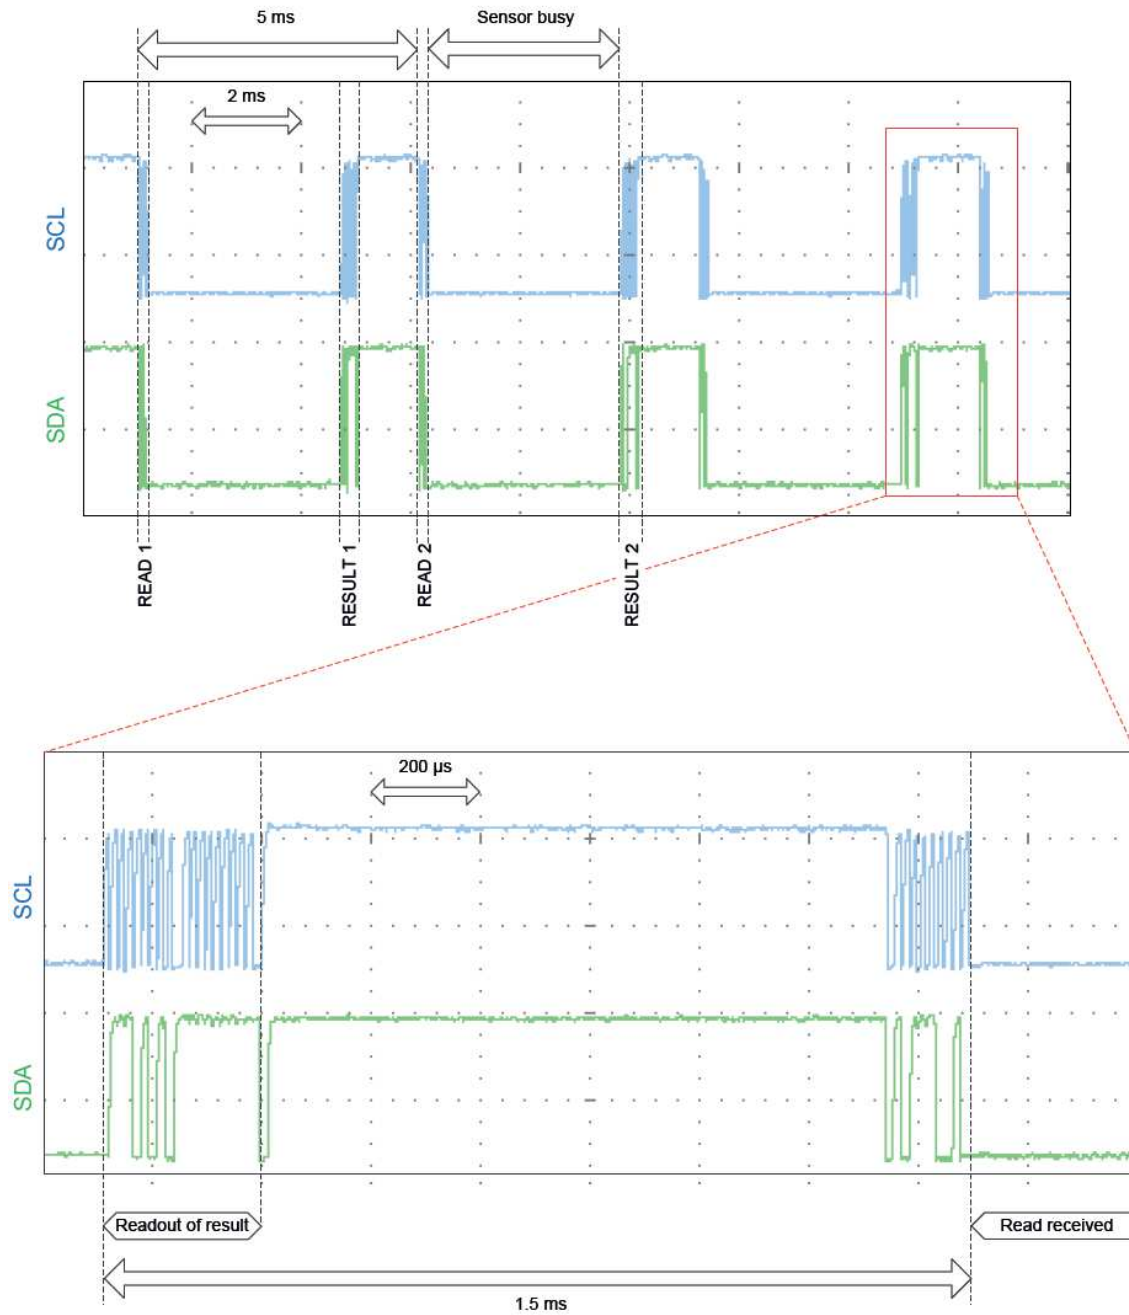

Fig. 4: Continuous mode operation
**DATA operation:** The sensor starts to send 2 data bytes containing the current pressure value (shown in Fig. 4 as "Readout of result").
// Write the command to the bus (not shown in Fig. 4).
/* — READ1 in Fig. 4 ————— */
/* — RESULT1 in Fig. 4 ————— */
/* — READ2 in Fig. 4 ————— */
/* — RESULT2 in Fig. 4 ————— */
Continuous mode and low-power mode differ only in how quickly subsequent I2C read commands (i.e., the sensor address with the R/W bit set to 1) are sent to the device. Specifically, if the time between the sensor starting to clock out a pressure result (marked as “readout of result” in Figure 4) and the time it fully receives the next I2C read command (marked as “read received” in Figure 4) is 1.5 ms or less, the device enters Continuous mode, which prevents the device from sleeping between conversions. Fresh data are available every 5 ms in this mode of operation.
// Write the command to the bus (not shown in Figure 4).